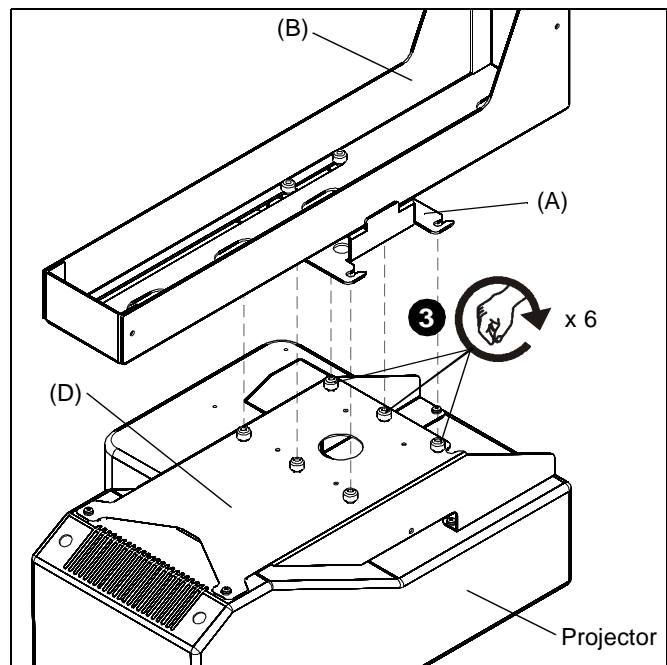

Figure 3
2. Determine location for wall bracket (B) and locate wall stud to which bracket will be attached.
3. Attach wall bracket (B) to stud through upper hole in wall bracket using 5/16" x 2" long lag bolts and 5/16" flat washers (not included) through hardware covers (E). (See Figure 3)
4. Place second fastener through lower slot in wall bracket (B). (See Figure 3)
5. Adjust wall bracket (B) side to side until it is level and tighten fasteners.
6. Close hardware covers (E).
2. Attach projector with SLB interface bracket to the wall mount adjustment bracket (A).
3. Tighten thumb nuts. (See Figure 3)